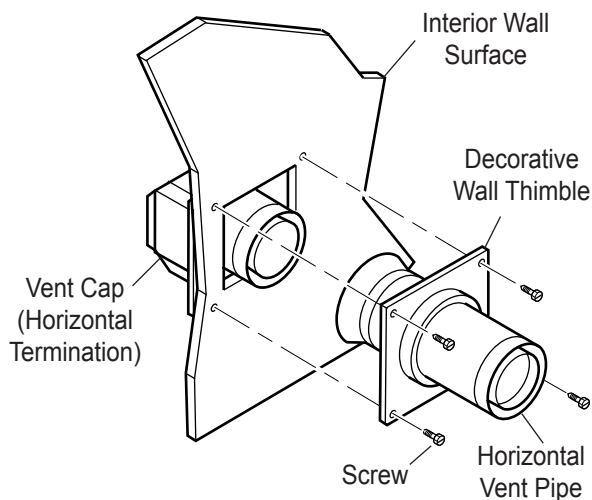

Figure 16 - Connecting Vent Cap with Horizontal Vent Pipe
- Slide the wall thimble over the vent pipe before connecting the horizontal run to the vent cap. See Figure 16.
- Slide the wall thimble against the interior wall surface and attach with screws. See Figure 16.